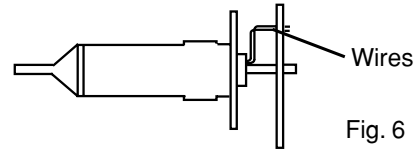
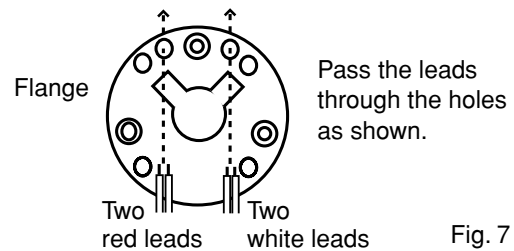

Fig. 6
Fig. 7
10. Bend the lead wire as shown in Fig. 6, and pass two red leads and two white leads through the holes as shown in Fig. 7.
11. Secure a heating element to the flange with the screws ⑤ ⑥ ⑦.